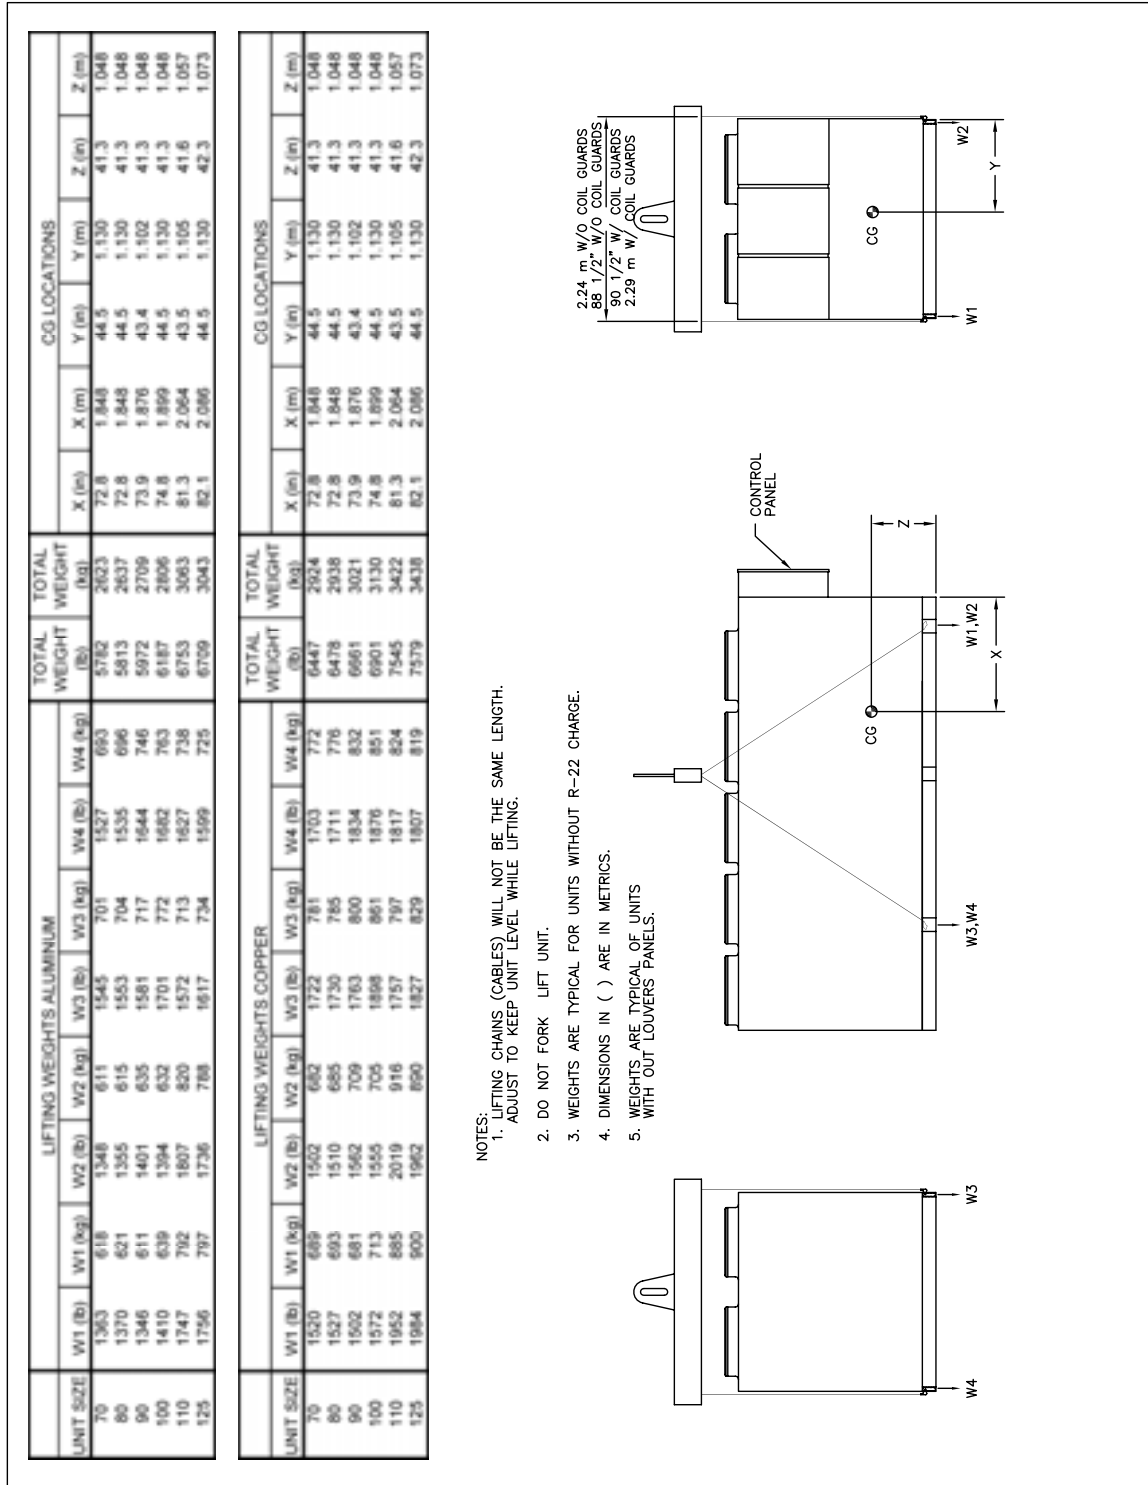

Figure 5 RTAA Rigging and Lifting Weights – Remote Evaporator
- Attach cables to lifting beam. Total lifting weight, lifting weight distribution and required lifting beam dimensions are shown in Figure 4 and Figure 5 and on the rigging diagram shipped with each unit. Lifting beam cross-bars must be positioned so lifting cables do not contact the sides of the unit.